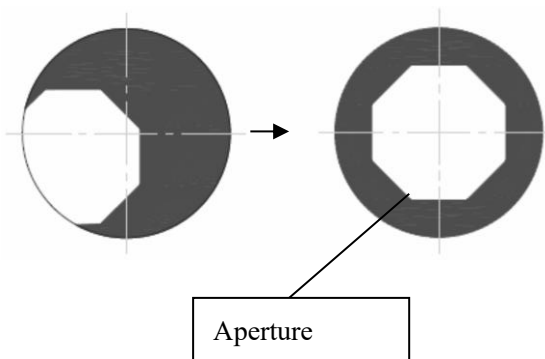

Figure 23
**3-20 Use aperture diaphragm (Figure 23)**
1. Turn the light gate ① to the "●" position, close the light road.
3. Turn the light gate ① to the "O" position. keep the light path clear.
7. Pull the aperture light putt ③ out to the lowest aperture diameter.
8. Pull out the field diaphragms switch ② to minimize the diameter of the field stop. At this point, you see the aperture image on the center plate.
Setting the aperture size between 70% and 80% of the objective value aperture (as shown in Figure 23) is generally the best viewing position.